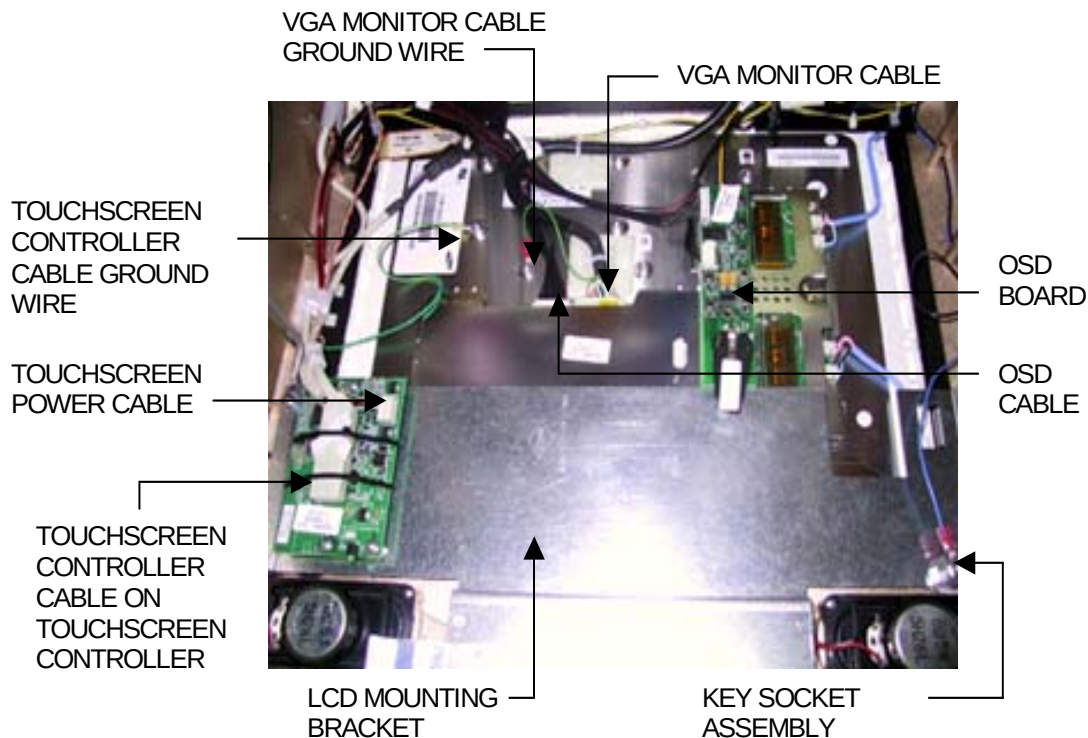

FIGURE 1 - CLOSEUP OF CPU SECTION
3. Remove the screw and washer fastening the strain relief cord, then remove the remaining 5 screws fastening the LCD mounting bracket to the game. The key socket ground wire will also be removed in the process. See Figure 1.
4. Remove the nut, wire and bolt from the key socket assembly located on LCD mounting bracket, then remove the bracket. See Figure 1.
5. Carefully cut the tie wraps around the VGA monitor cable, remove the ground wire and disconnect the cable from the monitor. See Figure 1.
6. Remove the OSD cable from the twist clamp and disconnect it from the OSD board and the monitor. Then remove the OSD board from the Velcro attached to the hinge and set it aside. See Figure 1.
8. Carefully cut the tie wrap around the touchscreen controller cable and disconnect the cable from the touchscreen controller. Also remove the ground wire. See Figure 1.